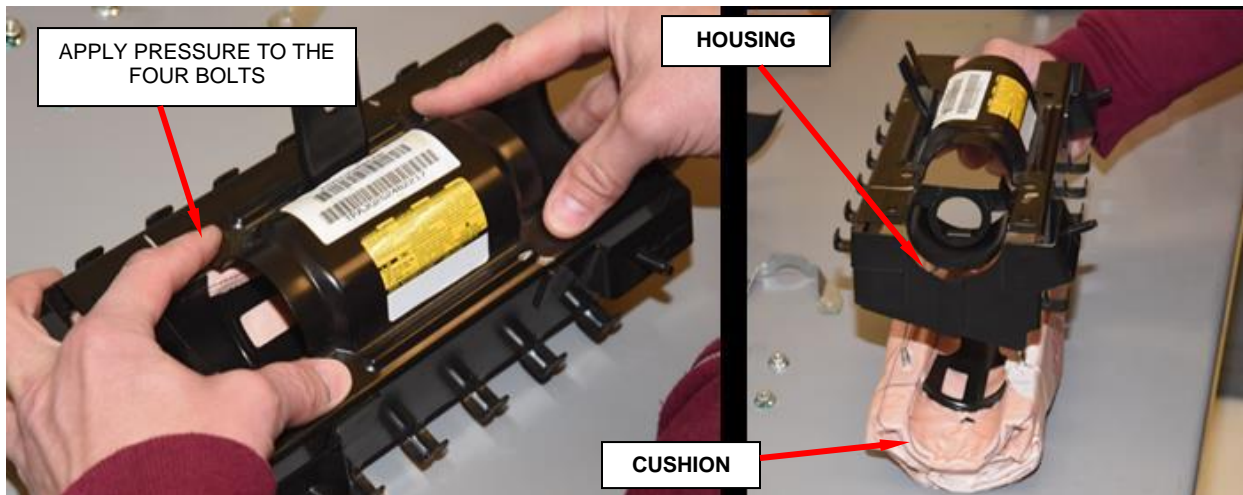

Figure 115 – Remove Airbag Cushion from Housing
- f. Remove airbag cushion from housing by applying pressure to the bolts, set cushion aside (Figure 115).